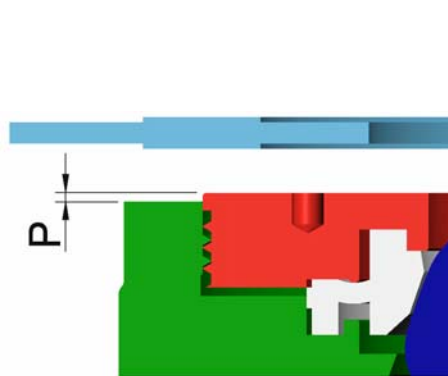
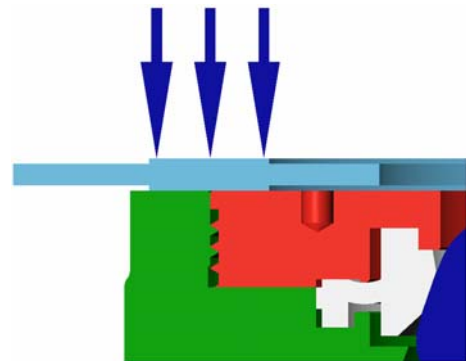

Fig.18
Fig.19
- 12.1.7 Since our new design of fixing the retainer, it's a normal condition when the retainer was tightened, and there is a gap less than 1mm between valve face and retainer face.(Fig.18 & Fig.19)